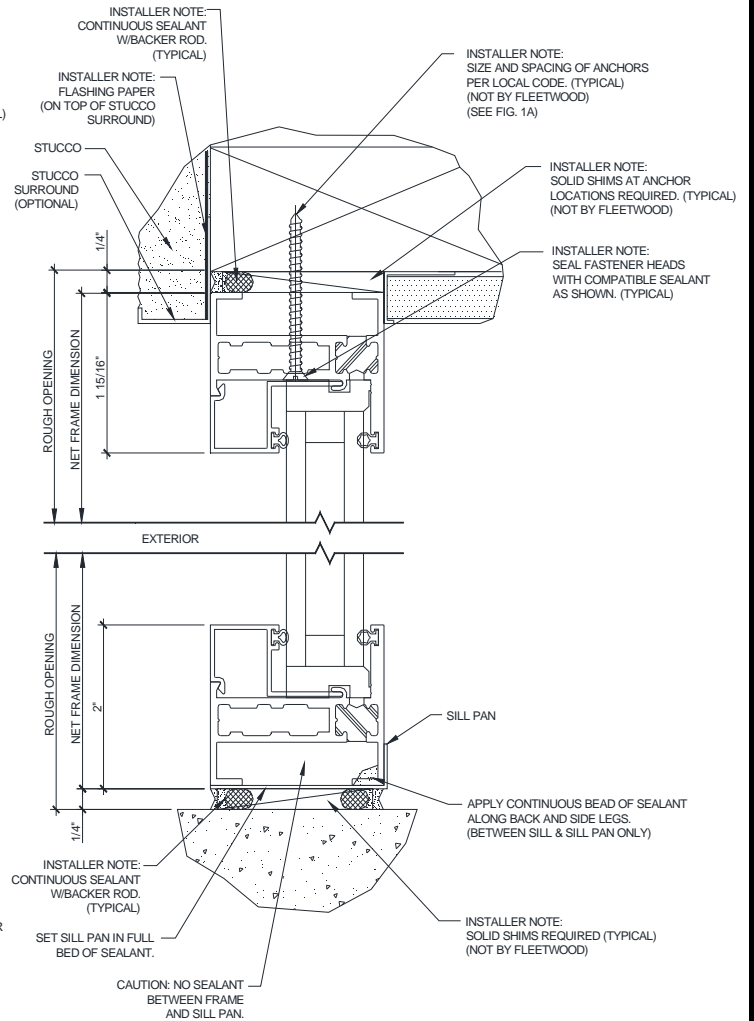

Figure 9:
- Apply a continuous bead of sealant along the back and side legs between the sill and sill pan (Figure 9, page 7) and insert the frame into the opening. Cross-measure and adjust as necessary to achieve a plumb square and level condition, as well as an even reveal around the framed opening. Shim with non-porous, non-absorbent, inorganic shims where needed. Seal all fastener heads with compatible sealant. (Only drill holes through Sill as required for design load)